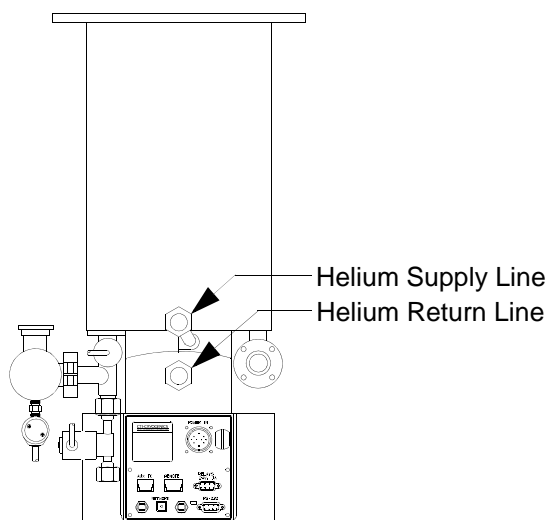

Figure 4-2: On-Board Cryopump Helium Supply and Return Lines
5. While each On-Board Cryopump is still operating, disconnect the helium SUPPLY line at all of the coldheads on the same manifold. The On-Board Cryopump helium supply line is shown in Figure 4-2.
6. Immediately after Step 5, and while each On-Board Cryopump is still operating, disconnect the helium RETURN line at all of the coldheads on the same manifold. The On-Board Cryopump helium return line is shown in Figure 4-2.
on the coldhead as shown in Figure 4-2.
16. Reconnect the system helium SUPPLY line to the supply connector on the coldhead as shown in Figure 4-2.